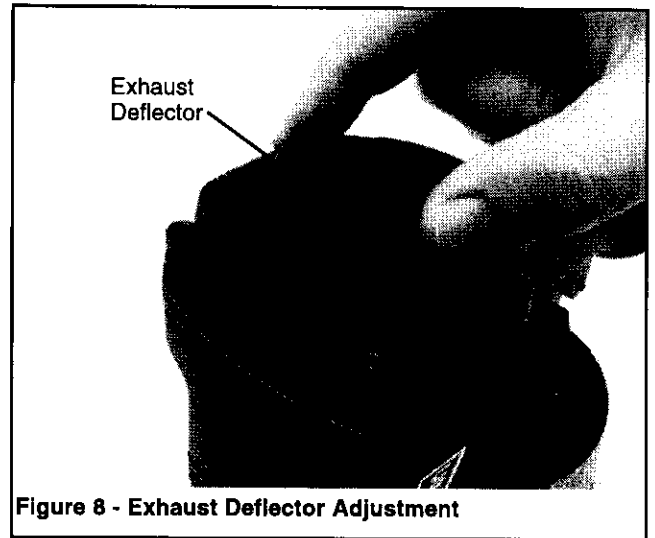

Figure 8 - Exhaust Deflector Adjustment
- Exhaust deflector can be positioned to point in any direction (full 360° movement). Reposition deflector by grasping firmly and rotating to the desired position (see Figure 8).